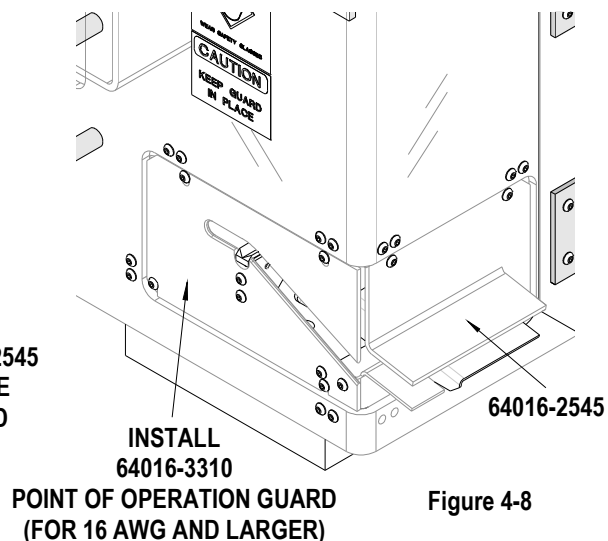

Figure 4-8
- For the 16 AWG and larger wire sizes install the 64016-3310 guard assembly. See Figure 4-8.